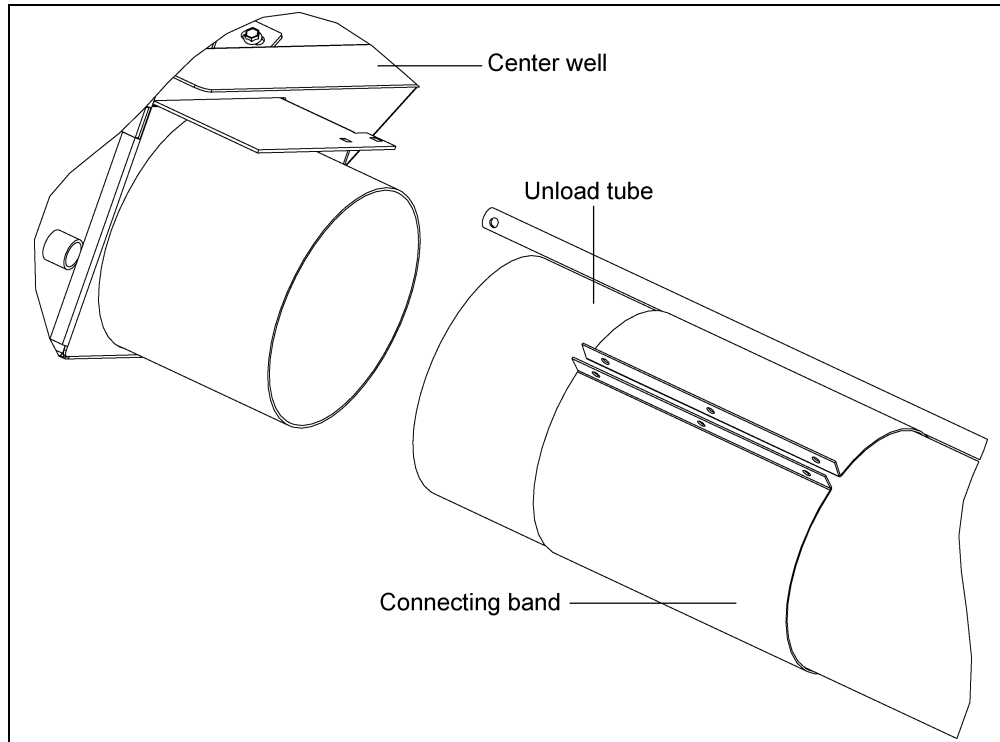

Figure 4H
3. Place the connecting band onto the end of the unload tube closest to the center well. *(See Figure 4H.)*